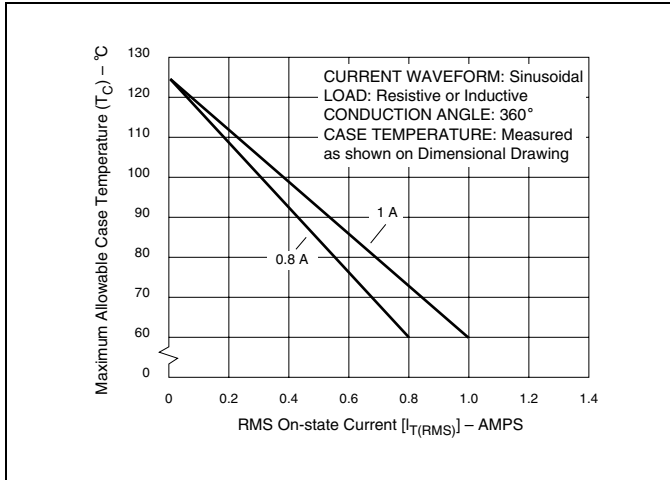
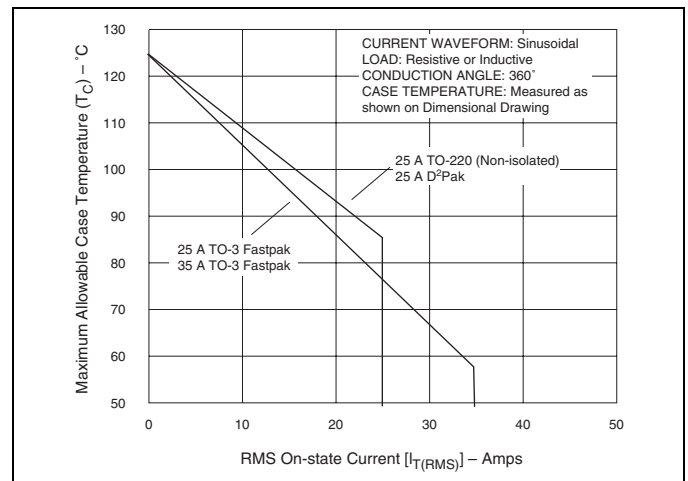
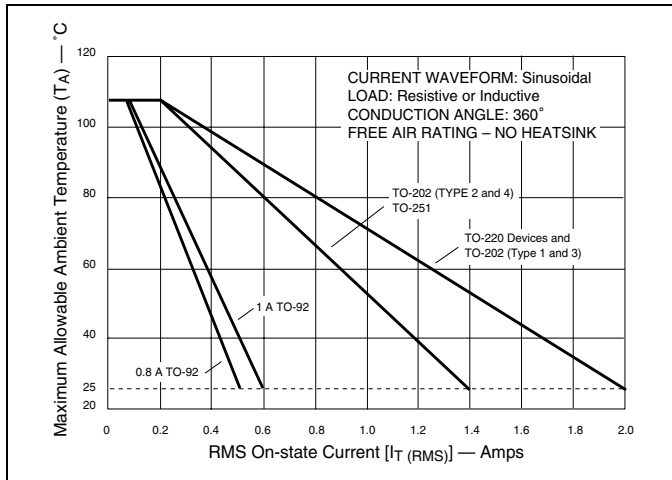
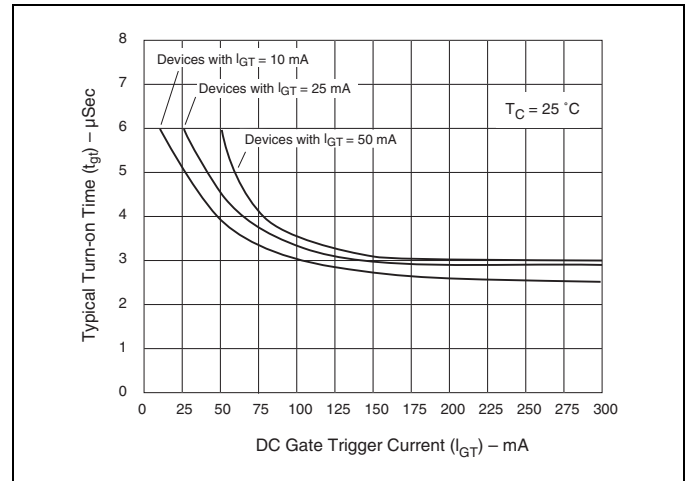

Figure E2.1 Maximum Allowable Case Temperature versus On-state Current (0.8 A and 1 A)
Figure E2.6 Maximum Allowable Case Temperature versus On-state Current (25 A and 35 A)
Figure E2.7 Maximum Allowable Ambient Temperature versus On-state Current
Figure E2.15 Turn-on Time versus Gate Trigger Current (Typical)
- (1) For either polarity of MT2 with reference to MT1 terminal
- (2) For either polarity of gate voltage (V_{GT}) with reference to MT1 terminal
- (3) See Gate Characteristics and Definition of Quadrants.
- (4) See Figure E2.1 through Figure E2.7 for current rating at specific operating temperature.
- (10) See Figure E2.15 for t_{gt} versus I_{GT}.
- (11) See package outlines for lead form configurations. When ordering special lead forming, add type number as suffix to part number.
- (12) Initial on-state current = 200 mA dc for 0.8 A to 10 A devices, 400 mA dc for 15 A to 35 A devices
- (13) See Figure E2.1 through Figure E2.6 for maximum allowable case temperature at maximum rated current.
- (14) Pulse width ≤ 10 μs; I_{GT} ≤ I_{GTM}
- (15) R_L = 60 Ω for 0.8 A to 10 A triacs; R_L = 30 Ω for 15 A to 35 A triacs
- (16) T_C = T_J for test conditions in off state
- (17) I_{GT} = 300 mA for 25 A and 35 A devices
- (18) Quadrants I, II, III only
- (19) Minimum non-trigger V_{GT} at 125 °C is 0.2 V for all except 50 mA MAX QIV devices which are 0.2 V at 110 °C.